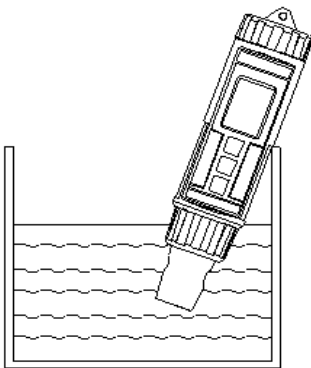

Fig. 3
- 3) First check the reading values (μS) for the water that is not made the treatment (not via the FILTER), then record the reading value, ref. Fig. 3